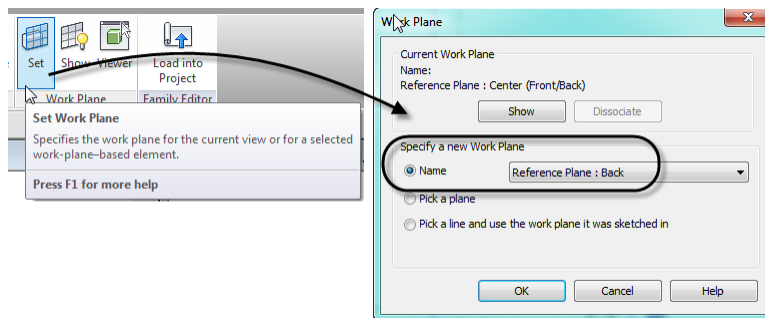

Figure 18
2. In the “Work Plane” dialog, from the Name list, choose: **Reference Plane: Back** and then click OK (see Figure 18).